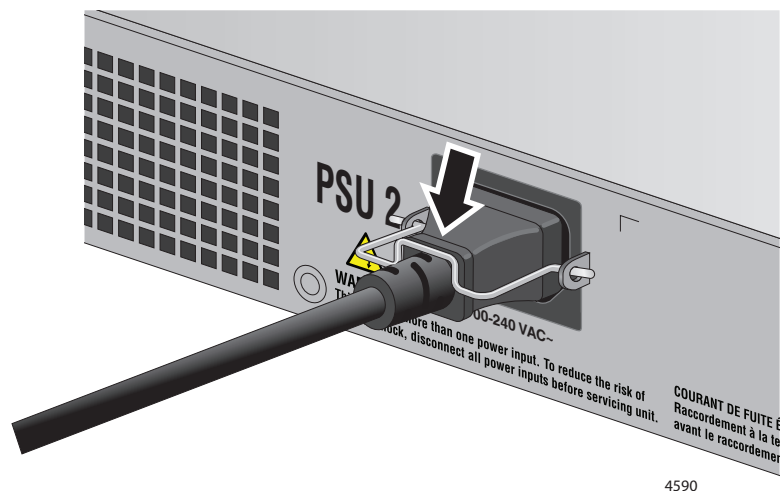
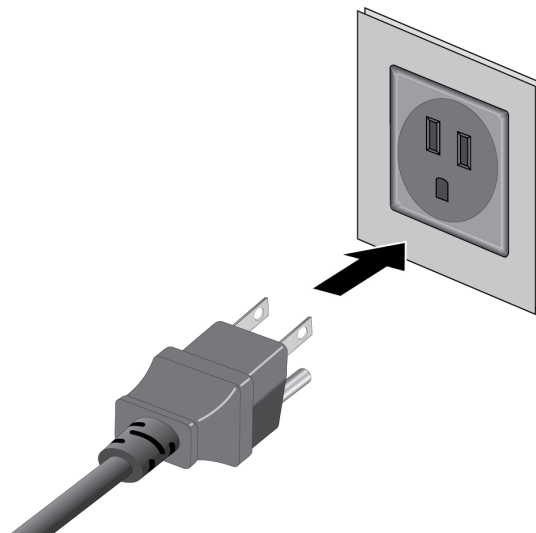

Figure 82. Lowering the Power Cord Retaining Clip
Figure 83. Plugging in the AC Power Cord to an AC Source
2. Power on the switch you want to be assigned ID number 1 by connecting its power cord to the AC connector on the back panel. Refer to Figure 82 on page 145.
3. Lower the power cord retaining clip to secure the cord to the switch. Refer to Figure 82.
4. Connect the power cord to an appropriate power source. See Figure 83. Refer to “Power Specifications” on page 221 for the power specifications of the switches.
Connect the power cords to the connectors on the back panels and to the appropriate power sources, as shown in Figure 82 on page 145 and Figure 83 on page 146. Refer to “Power Specifications” on page 221 for the power specifications of the switches.